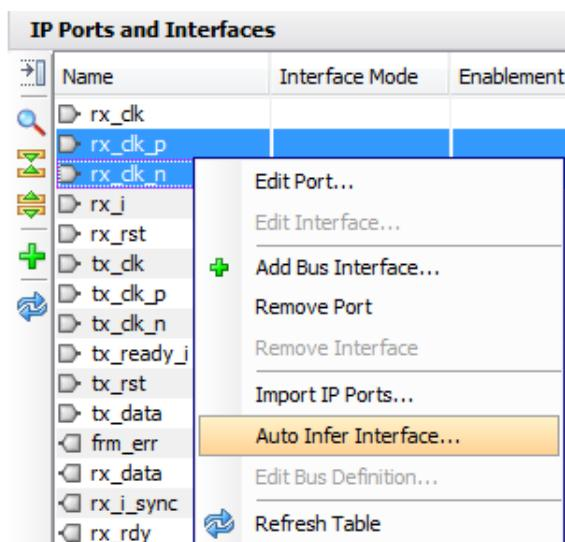

Figure 8-69: Auto-Infer Interface Option
1. To auto-infer an interface, select the ports of the interface and select **Auto Infer Interface**, (Figure 8-69).